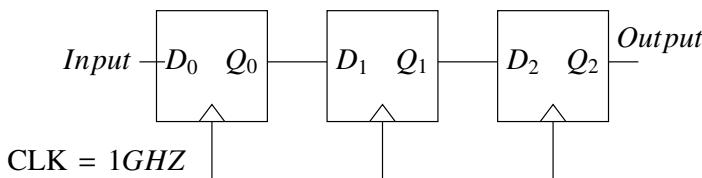

Fig. 5.6
6. Implement the synchronous sequential circuit shown below in Fig. 5.6 with a clock frequency of 500Hz.